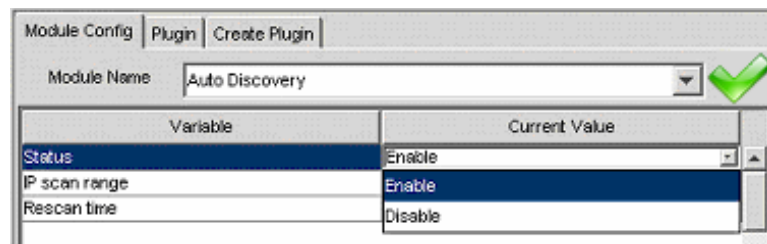

Figure 4-47: Enable/Disable the Auto Discovery
Step 7. You may turn on and off this option by double click on current value under **Status** row (see **Figure 4-47**) or click on the On/Off switch beside the pull-down button to enable the option.